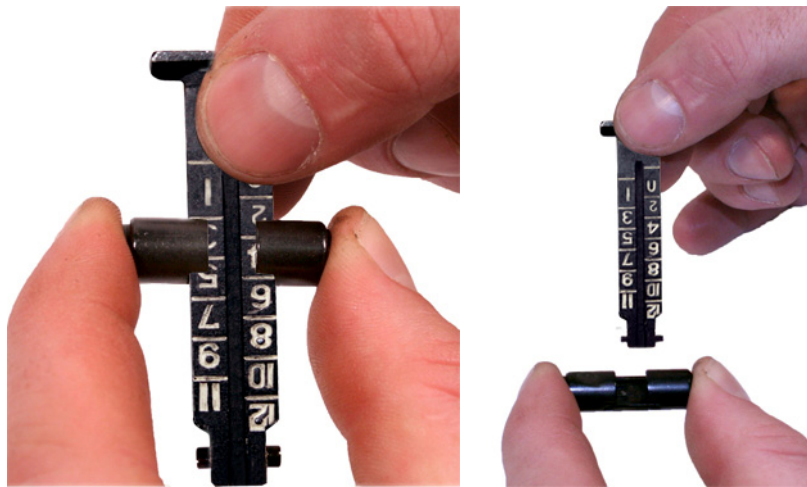

Figure 8. Depressing the Elevation Slide Assembly and Removing it from the Sight Leaf.
12. Depress the elevation slide assembly and remove it from the sight leaf. Refer to Figure 8.